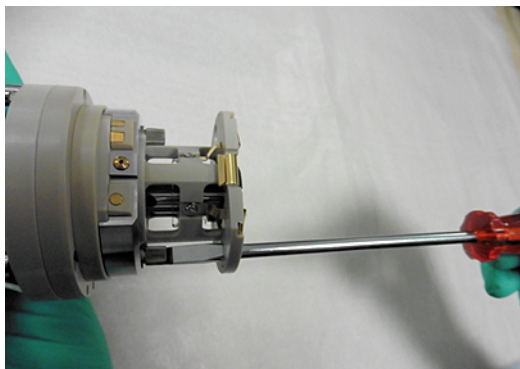

Figure 8-18. Removing the injection filter
2. Insert a flat head screwdriver through the holes in the PEEK™ holder of the injection filter. See Figure 8-18. Loosen the screws that attach the injection filter to the ion source interface cage. In this stage, the screws should turn freely and be movable by a few millimeters.